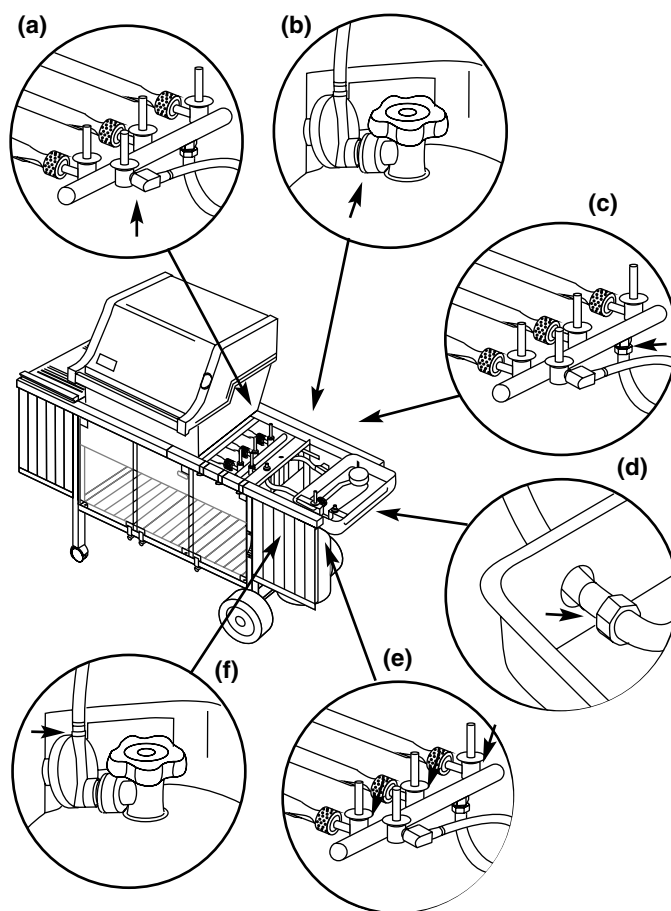

Figure 10
- a) Hose to manifold connection. Figure 10 (a).
- b) Regulator to tank connection. Figure 10 (b).
- c) Manifold to side burner hose connection. Figure 10 (c).
- d) Side burner hose to side burner connection. Figure 10 (d).
- e) Valves to manifold connections. Figure 10 (e).
- f) Hose to regulator connection. Figure 10 (f).